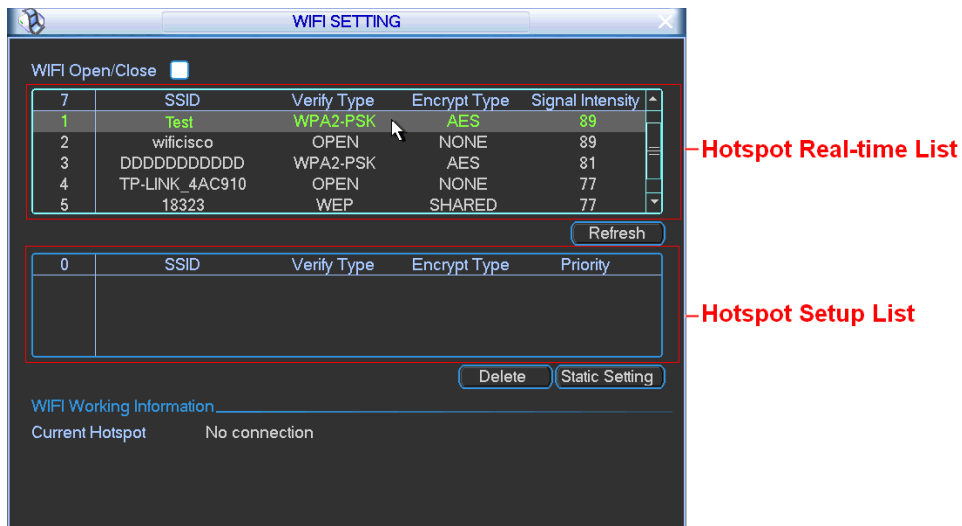

Figure 4-28
The WIFI interface is shown as below. See Figure 4-28.
- In Figure 4-28, click Refresh button to view the entire WIFI signals available.